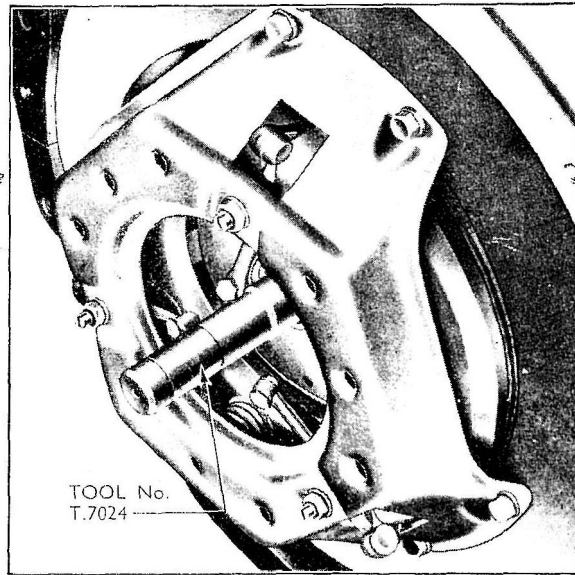

Fig. 3
2. Pass the clutch disc locator (Tool No. T.7024) through the splines of the clutch disc hub into the clutch pilot bearing. (See Fig. 3.)